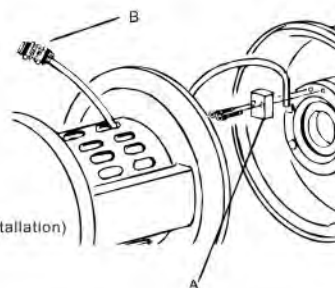

Figure 7 - Cascade System Installation)
When this option is ordered, a fitting assembly (Part Number 60112) (See Figure 7 item B) is supplied for directing a flow of water onto the backplate/seal area.
- 6.1 The water cascade block (See Figure 7 item A) must be above the seal on the assembled backplate to flow water onto the seal face.